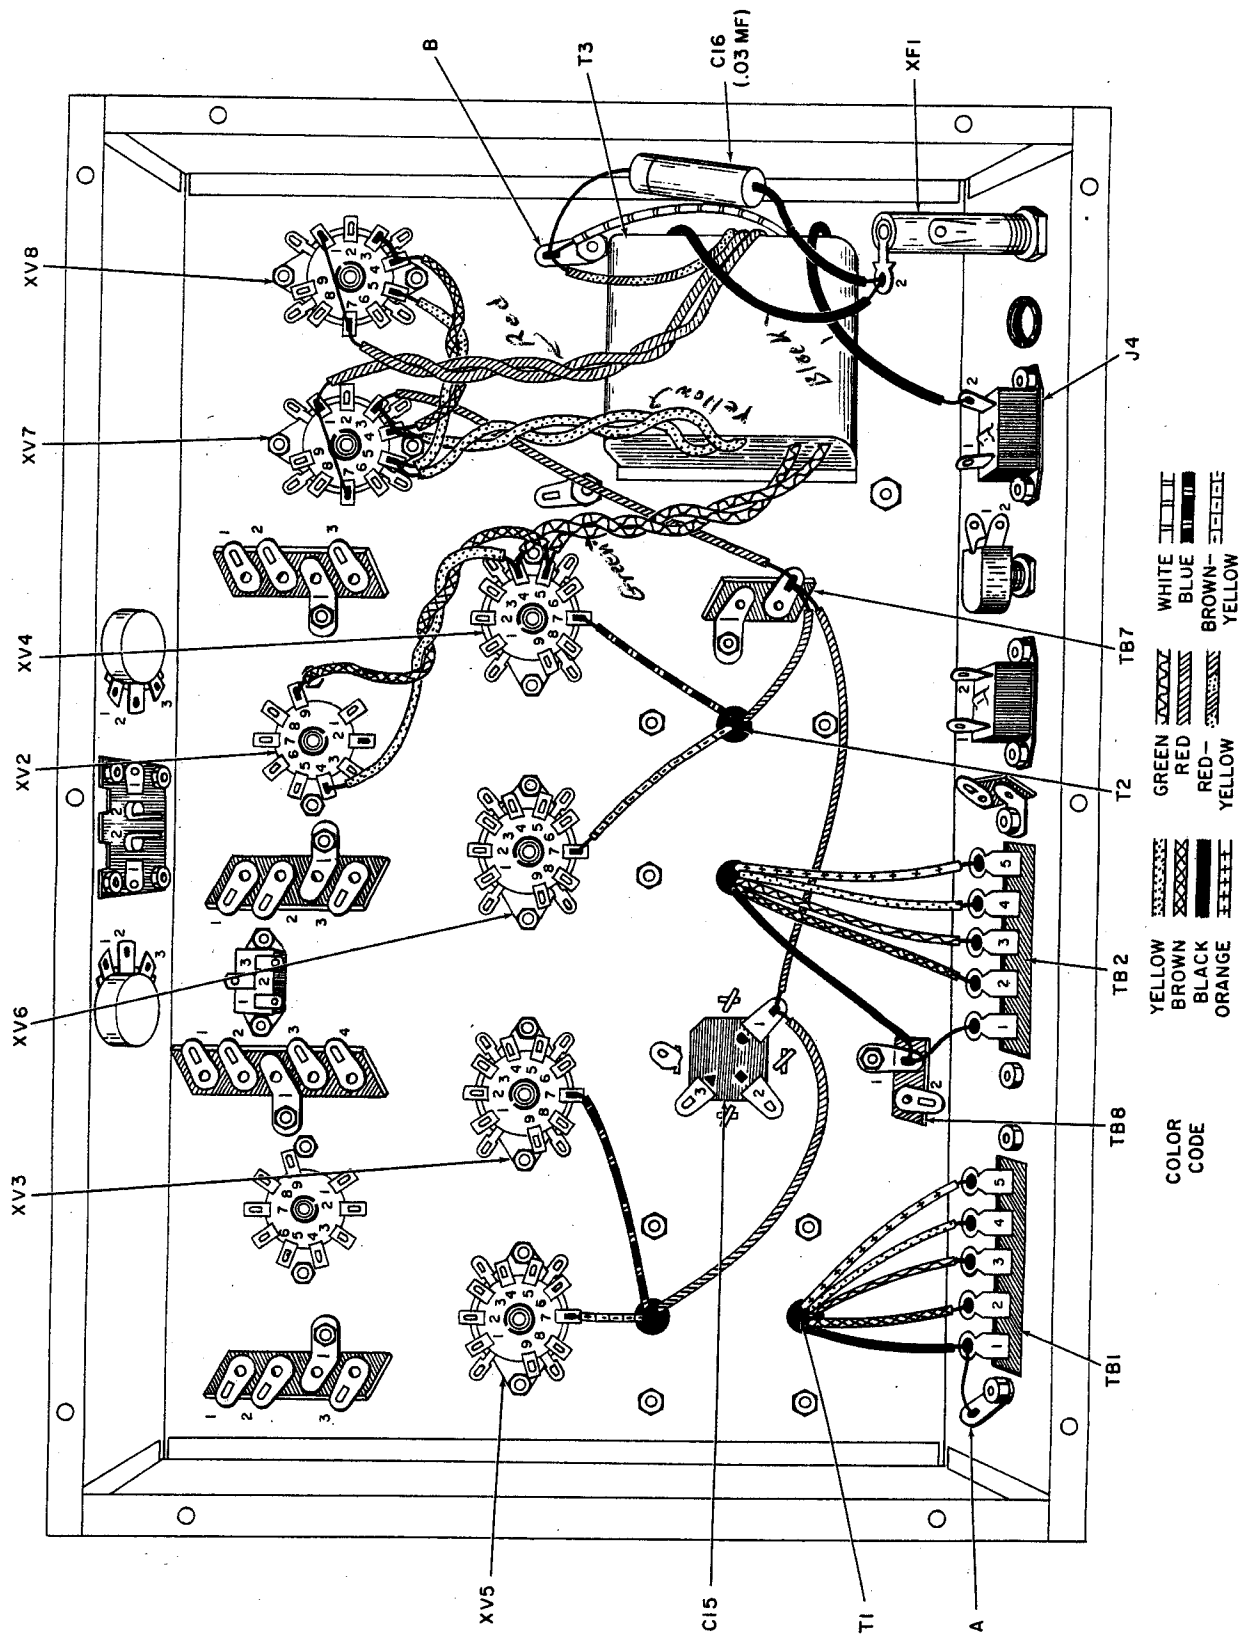

Figure 4. Preliminary Wiring
(\*) 1. On power transformer T3 (30021), cut both red and both green leads to 6 in., the red-yellow lead to 2-1/2 in., the white lead to 3 in., the two black leads to 3-1/2 in., and the two yellow leads to 4-1/2 in. Mount T3 as shown, with the red leads closest to the side of the chassis. (See figure 4.) Use two No. 8 ground lugs, four No. 8 lockwashers, and four No. 8-32 hex nuts.
(\*) 3. On output transformer T2 (32013), cut the brown, yellow, green, and orange leads to 3-1/2 in. Cut the blue, yellow-brown, and black leads to 3 in., and the red lead to 2 in. Pull the brown-yellow, blue, and red leads through the chassis opening closest to T3. Pull the remaining leads through the chassis opening furthest from T3. (See figure 4.) Use four No. 8-32 screws, four No. 8 lockwashers, and four No. 8-32 hex nuts to mount the transformer.
(\*) 4. Mount two 9-pin miniature tube sockets (with shield supports) XV1 and XV2, as shown. Note that the sockets should be oriented so that the large space between socket pins is directed towards transformer T3. Use two No. 4-40 screws, two No. 4 lockwashers and two No. 4-40 hex nuts to mount each socket. (See figure 4.)
(\*) 5. Mount electrolytic can capacitor C15, as shown. Note orientation of half-moon, square, and triangle near lugs as shown in figure 4. Insert the capacitor mounting tabs into the slots in the chassis and twist the tabs a little less than a quarter turn. Do not twist the tabs excessively or they will shear off. Solder the capacitor tab without a hole, to the chassis at the slot in the chassis.
- ( ) 1. Mount tube sockets XV3 through XV6, as shown. Orient each socket so that the large space between pins 1 and 9 is directed away from power transformer T3. (See figure 4.) Use two No. 4-40 screws, two No. 4 lockwashers and two No. 4-40 hex nuts to secure each socket.
- (X) 2. Mount tube sockets XV7 and XV8, as shown. Orient each socket so that the large space between pins 1 and 9 is directed away from power transformer T3, towards the front apron. (See figure 4.) Use two No. 4-40 screws, two No. 4 lockwashers and two No. 4-40 hex nuts to
SEE FIGURE 4 FOR ALL STEPS ON THIS PAGE
- (\*) 13. Connect a 4 in. piece of yellow wire to XV4-4 and a 4 in. piece of brown wire to XV4-5. Twist the wires together, as shown in figure 4. Connect the other end of the yellow wire to XV2-4 and the other end of the brown wire to XV2-9. Now solder two wires connected to XV4-4 and the two wires connected to XV4-5.